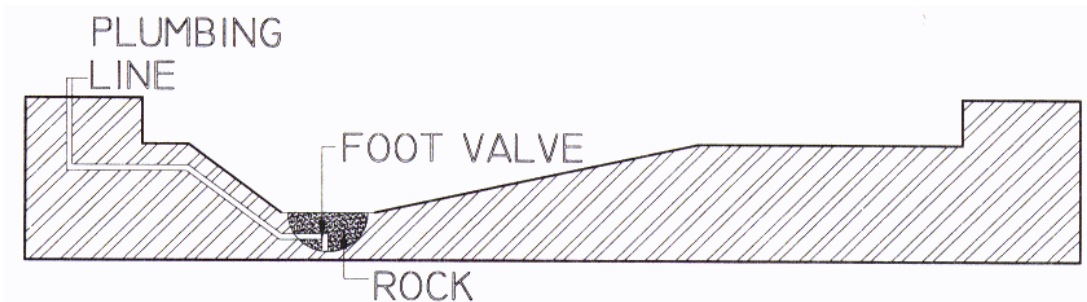

Figure 7 - Ground Water Solution
4. Run a plumbing line from the hopper to near the filter (see Figure 7).